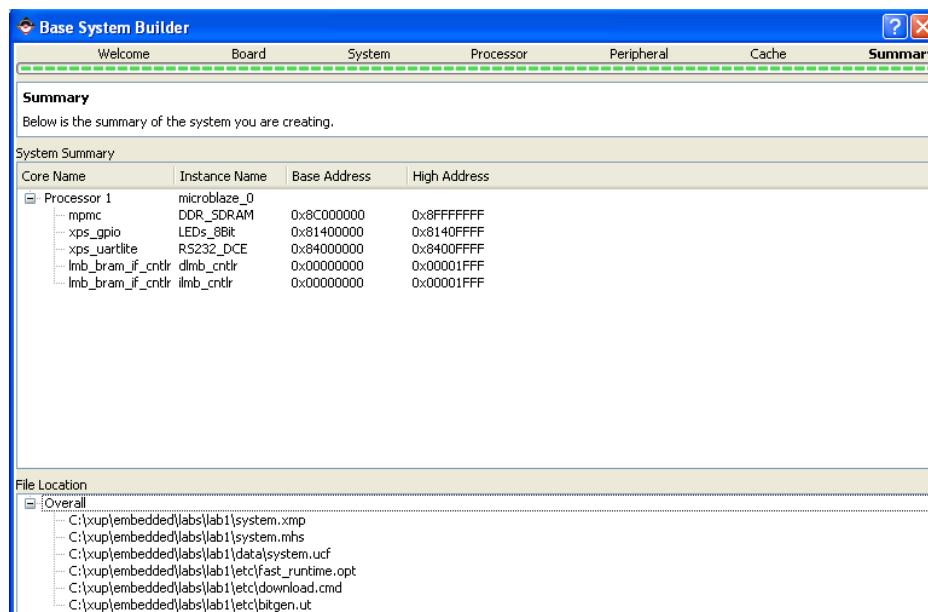

Figure 11. System Summary
- 1-2-3.** Verify the system summary in the **Summary** dialog (**Figure 11**) and click **Finish**.